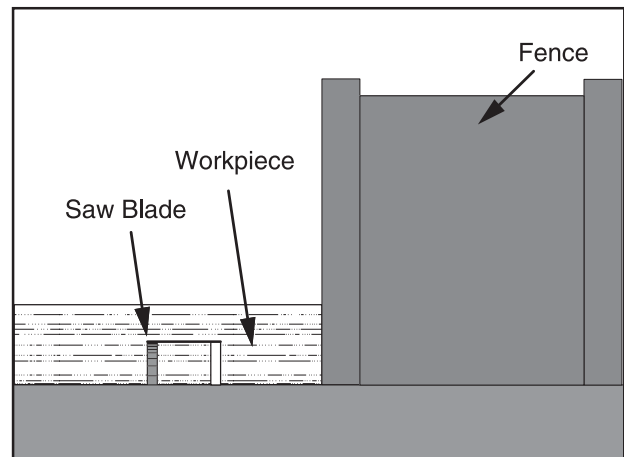

Figure 48. Single-blade dado second cut.
8. Re-adjust the fence so the blade is aligned with the other edge of the intended dado channel (**Figure 48**).